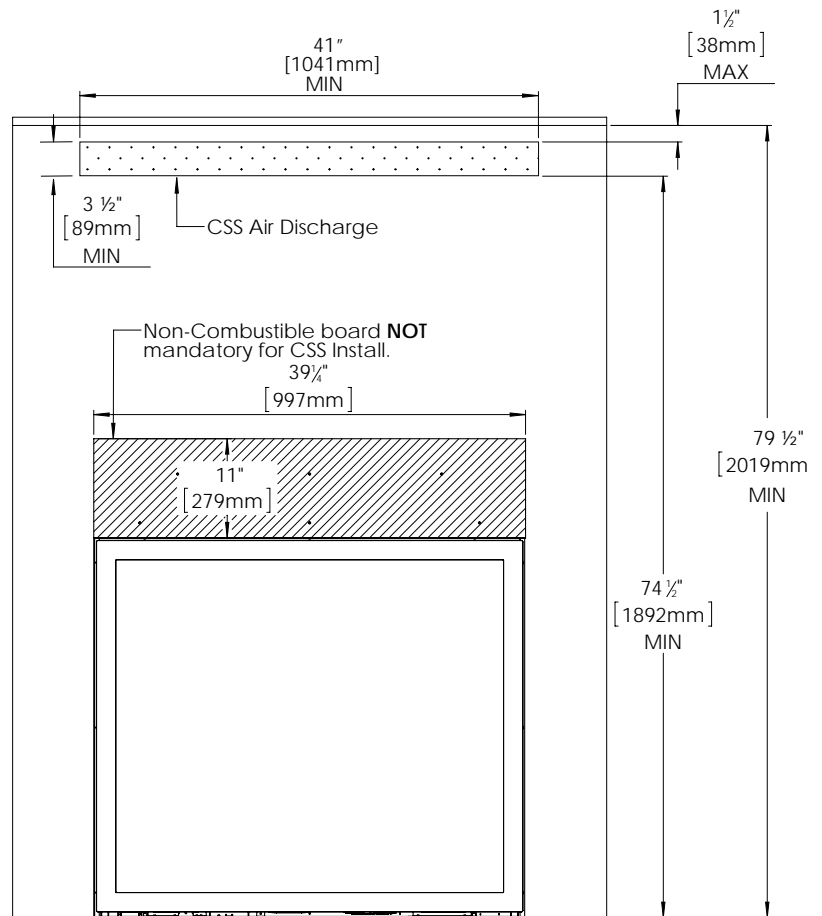

Figure 43: Options 1 Front Discharge
**Option 1: Front Discharge (flush wall installations)** - Construct the framing in a way that provides a minimum 41inch (1054mm) by 3½ inch (89mm) gap at the top of the facing wall. It is essential that these dimensions are respected and not deviated away from them when using combustible materials inside or outside the chase (see Figure 43).